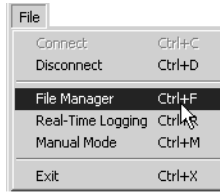

Figure 4-9. File->Manager
- Click **File->File Manager** (Figure 4-9).